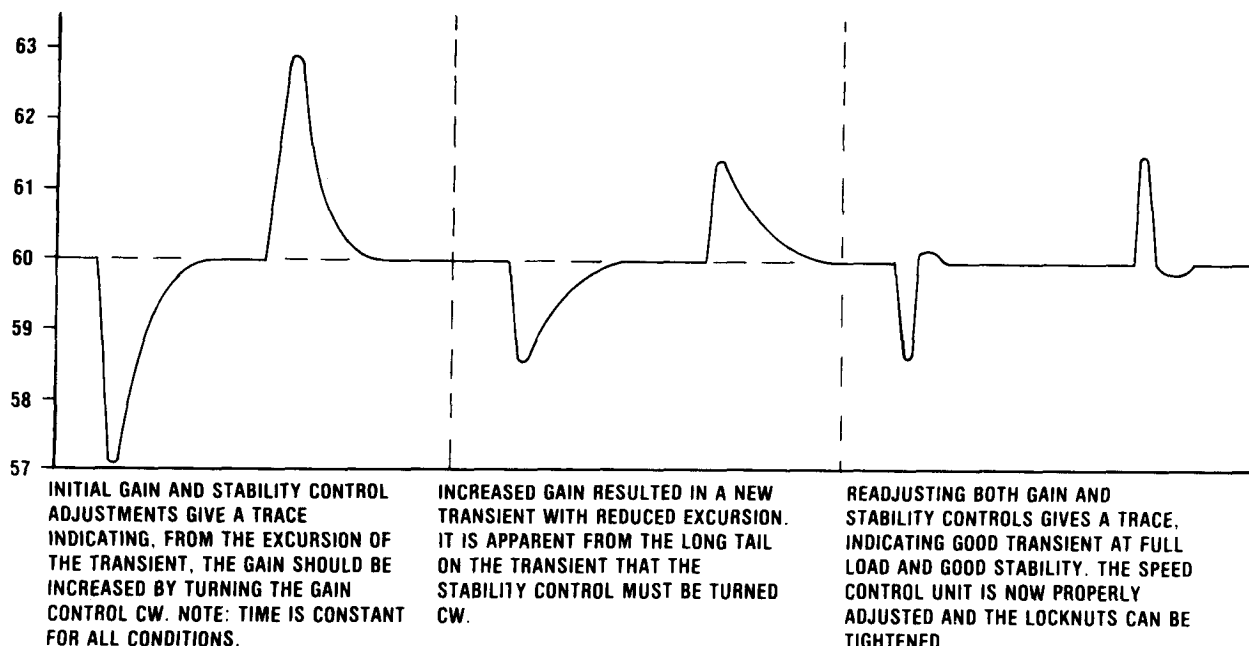

Figure 5. Typical performance chart
**NOTE:** Optimum adjustment of both controls is in the furthest CW position without causing instability, and will result in the best response and stability under all operating conditions. Backing off slightly from this position will allow for changing conditions that may affect the dynamic response of the engine. If a load bank and a recorder are available, use them to verify the performance using Figure 5 as a guide. If a stable system cannot be obtained, refer to the "Trouble-shooting Section".